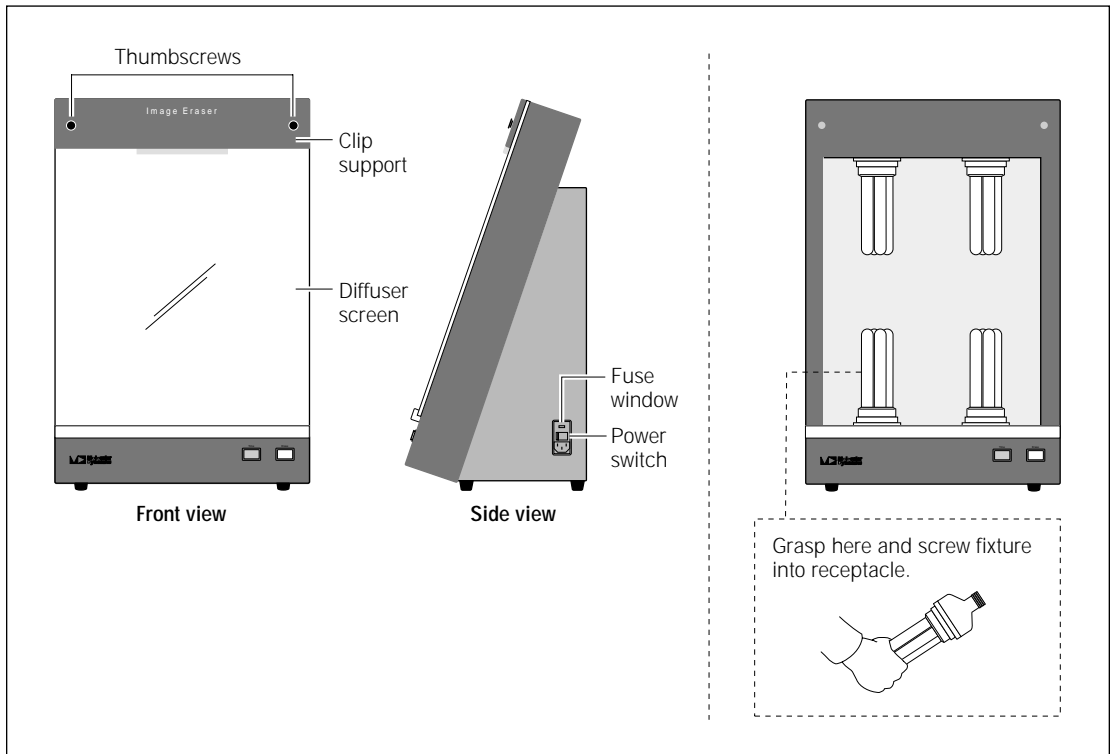

Figure 11-2. Changing the Image Eraser bulb.
2. Remove the two thumbscrews that hold the clip support and diffuser screen in place (figure 11-2).